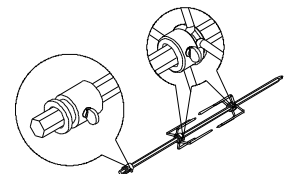

Fig.3
3. Place the spit forks into the spit rod with caution (See Fig.3).